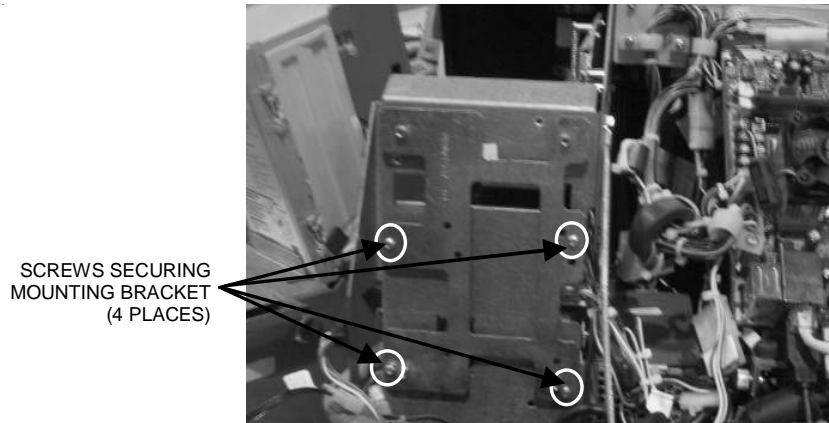

FIGURE 7 - METAL I/O MOUNTING BRACKET IN RADION GAME
6. Install the provided metal I/O board mounting bracket in the game where the original I/O board was mounted, and secure it using the 4 screws removed in step 3. See Figure 7.